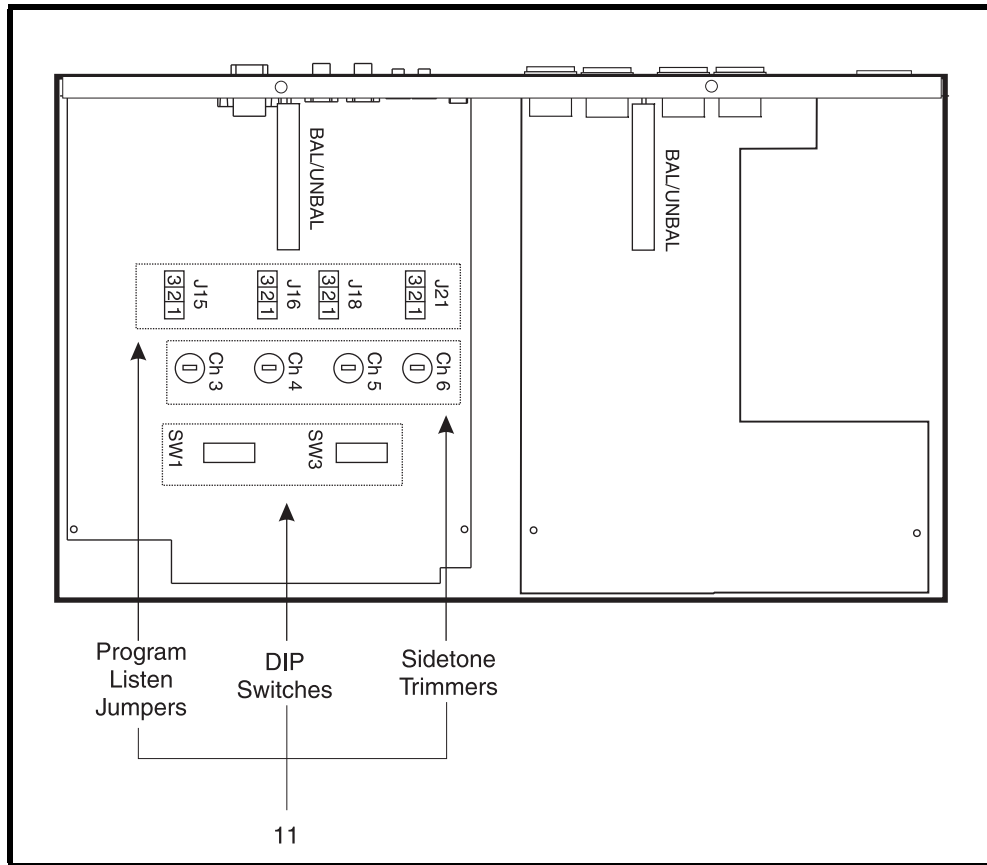

FIGURE 2. EMS-4001 Internal DIP switches, jumpers, and adjustments
Before making connections, read the following configuration notes, and make sure all switches and jumpers are properly set for your intended usage. Locations of configuration switches and jumpers are shown in Figure 2 on page 9. Only the DIP switches and jumpers require internal access. If access is required, remove three (3) screws from the top cover and three (3) screws along the bottom edge from each side.
NOTE: Jumper locations are shown in figure 2 on page 9.